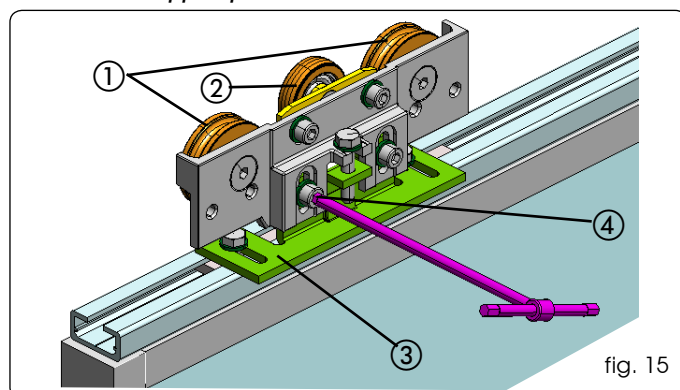

fig. 15
The carriages have two sliding wheels (Fig.15 ref. ①) and a counter-thrust wheel (Fig.15 ref. ②)
Two slots are provided on the base of the carriages. These slots enable leaf depth adjustment (Fig.15 ref. ③)
- Slightly loosen the two cylinder head screws - fig.15 ref.④.